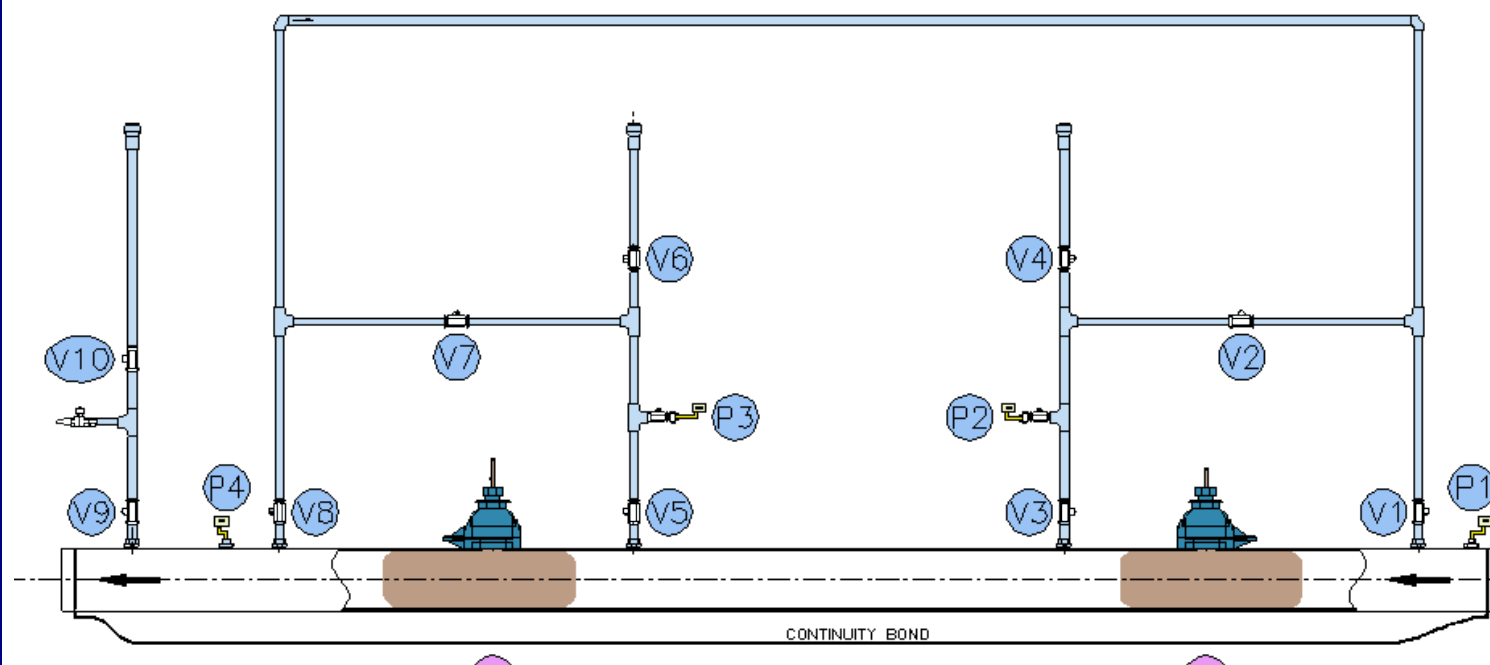

Figure 84- Foam Plug Insertion
1. Mix the resin and hardener to the manufacturer's instructions and pour the contents into the cartridge gun and dispense the foam into the bag 1 see Figure 84.
6. Confirm the seal by attaching a pressure gauges P2 & P3, close the vent V4 & V6 and check for let by through the foam bag Figure 84.